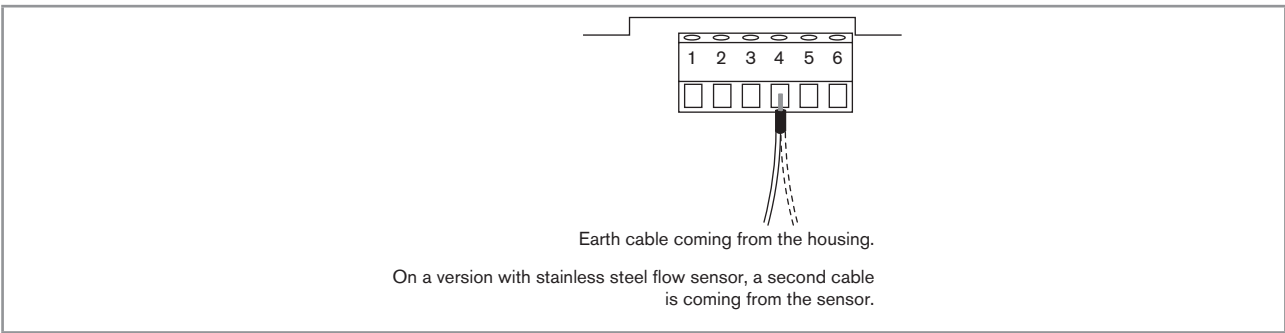

Fig. 15 : Terminal block 1 connecting the earth wire coming from the housing (made in the factory)
- Make sure the earth cable coming from the housing and, on a version with stainless steel sensor, the cable coming from the flow sensor, are connected as shown in Fig. 15, chap. 7.3.3.